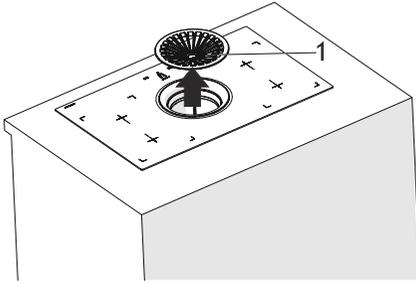

Fig. 10
1. ➔ ■ Remove the filter cover by pulling it towards the direction of the arrow (Fig. 10)